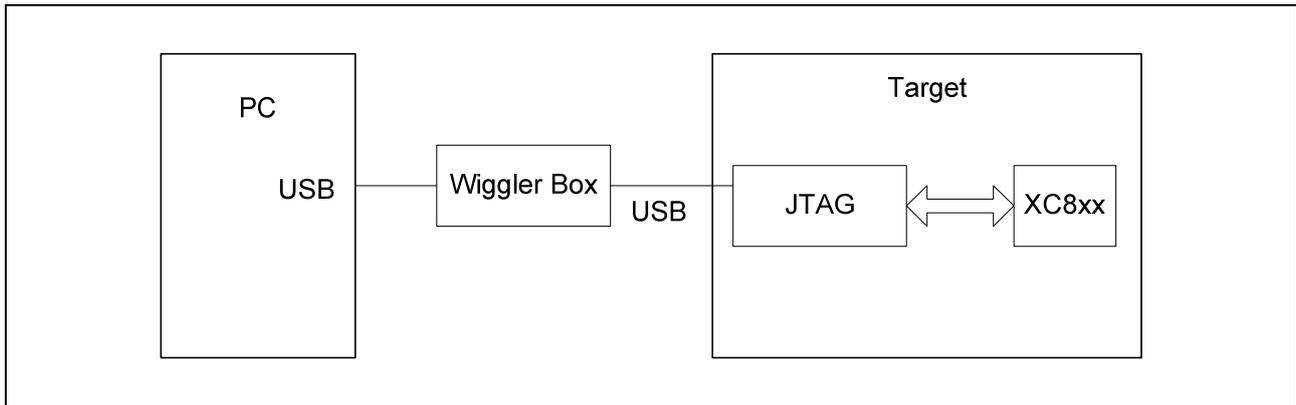

Figure 8 The connection between a PC and a target system with JTAG interface through a Wiggler box for programming.
- Figure 8 shows the connection between a PC and a target system with JTAG interface for programming. In this case, the user should check the “Use JTAG over USB chip” under the “Option” menu.
- (5) (In the case that FLOAD programs the target device through BSL) Configure the corresponding pins (e.g. MBC and TMS) properly and then do a hardware-reset to the target device to make it enter the BSL mode.
- (6) Click the “Find Device” button to search for target devices connected on COM port, JTAG, etc. In the case “Use CAN Board” option is enabled, the “Find Device” button will be disabled and the the user need to manually select a proper channel (e.g., COM5 if the CAN board is mapped to COM5) and then click the “Connect” button to connect to the target device.
- (7) Click “File” -> “Open Hex File” and then open a Hex file.
- (8) Click the “Download” button to program the Hex file into the target device.